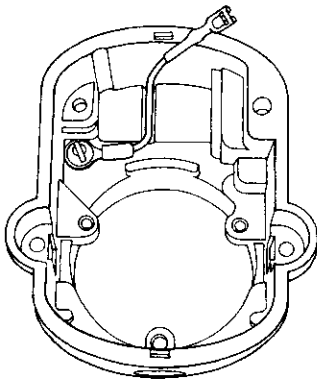

Figure 7.11.1
**Retard Breaker Magnetos Only** — Ensure retard breaker contact lead is channeled underneath condenser. See Figure 7.11.1.